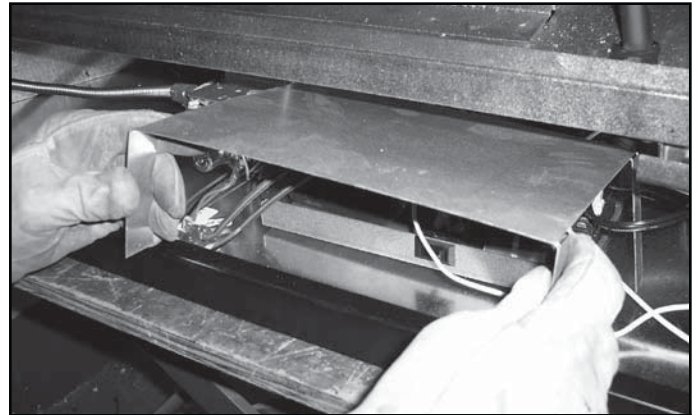

Figure 13.6 Placing Remote Cover Plate
- Place over control plate so that all of the control plate is covered and legs are on bottom pan of appliance. See Figures 13.6 and 13.7.